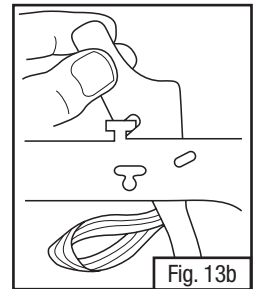
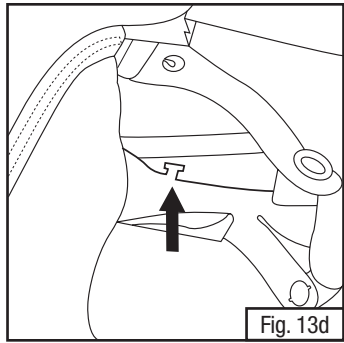

Fig. 13b
Fig. 13d
- Locate the “T” hooks on the suspension (Fig. 13d). The plastic tab of the faceseal attaches to this hook on the suspension. To attach, slide the tabs in **between the suspension and the headgear shell**. Attach notch in faceseal tabs onto the “T” hooks located on the suspension headband (Fig. 13b).